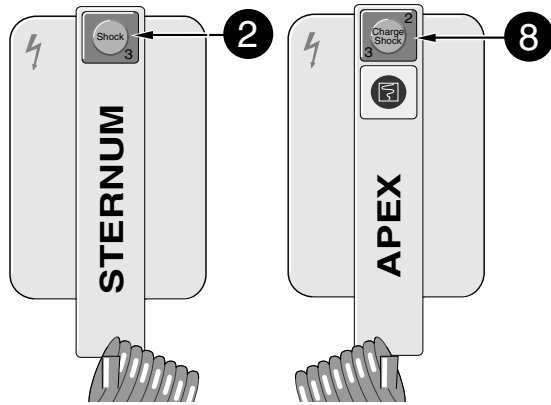

Figure 4-4. Buttons to initiate energy storage and to trigger the defibrillation shock
- * Press the  button (8) on the apex paddle to initiate charging (Figure 4-4). When using internal electrodes or defibrillation pads, press  on the device.
- * Trigger the defibrillation shock within the next 30 seconds by simultaneously pressing the buttons on both paddles (Figure 4-4). When using internal electrodes or defibrillation pads, press  and  on the device.